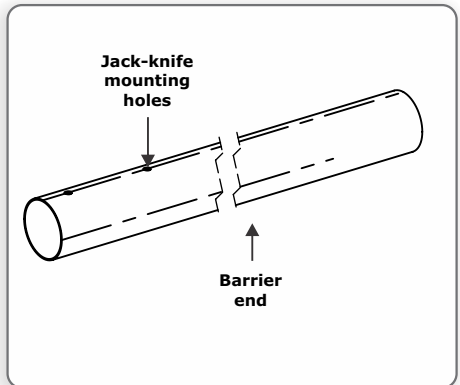

FIGURE 8. OUTER POLE
5. Drill holes in the outer pole following the measurements shown in Figure 8.